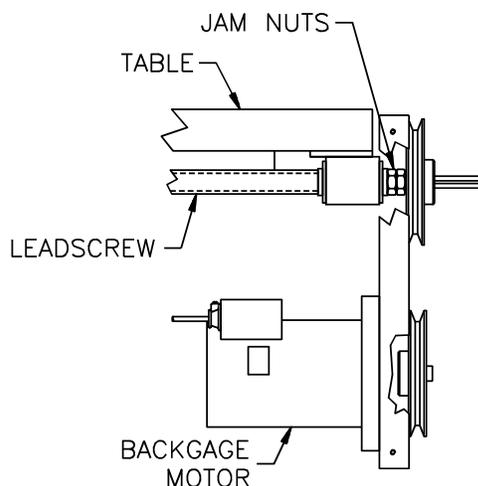

Figure 28 – Jam Nut Location
3. Loosening the lead screw jam nuts, (Figure 28 on page 57).